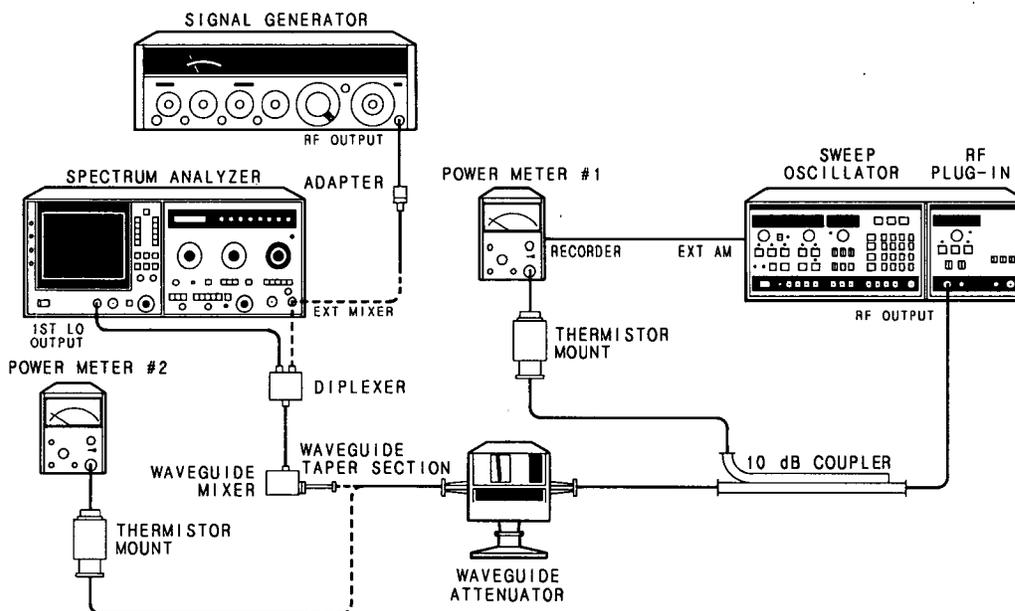

Figure 5-58. Amplitude Calibration of External Mixing Bands Adjustment Test Setup
6. Disconnect the signal generator and connect the equipment as in Figure 5-58.
15. Replace "P" band equipment with "K" band equipment (see figure 5-58).